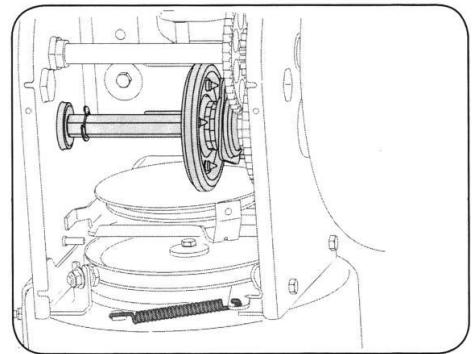

Fig. 11
2. Apply a light coating of an all-weather multi-purpose grease to the hex shaft. See Figure 11